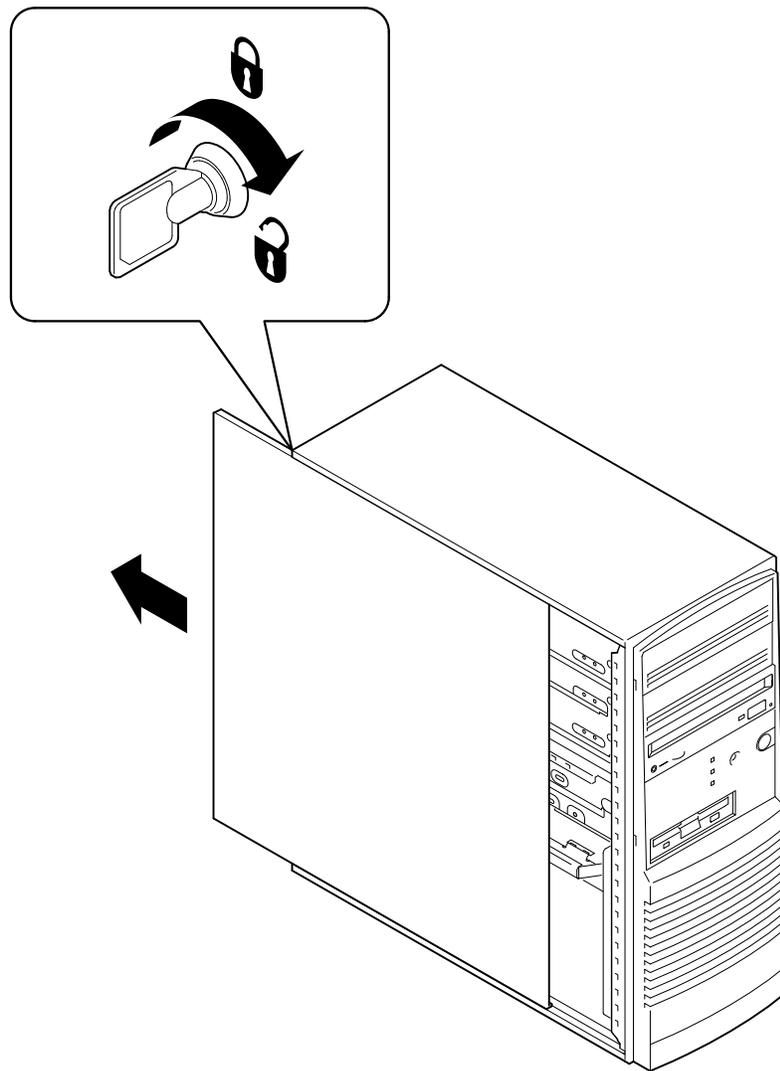

Figure 4-1. Unlocking and Removing Left Side Panel
4. Unlock the side panels by turning the key clockwise to a horizontal position (Figure 4-1).
5. Slide the panels to the rear of the system unit (Figure 4-1), and remove them.